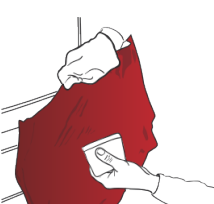

Figure 14
- › If necessary, lift the film, stretch it again and completely wrap the convex surface, then apply it. (FIG. 14)